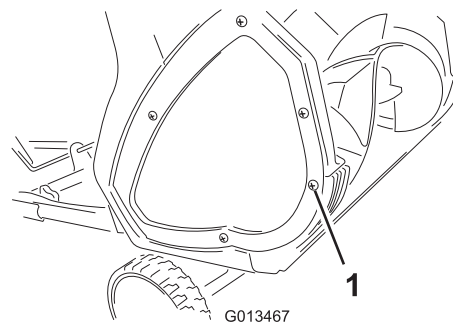
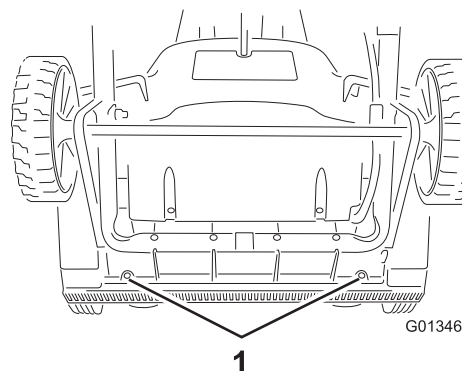

Figure 8
Figure 9
1. Remove the screw from each side plate that holds the scraper (Figure 8) and 2 screws from under the appliance (Figure 9) that secure the scraper to the appliance.